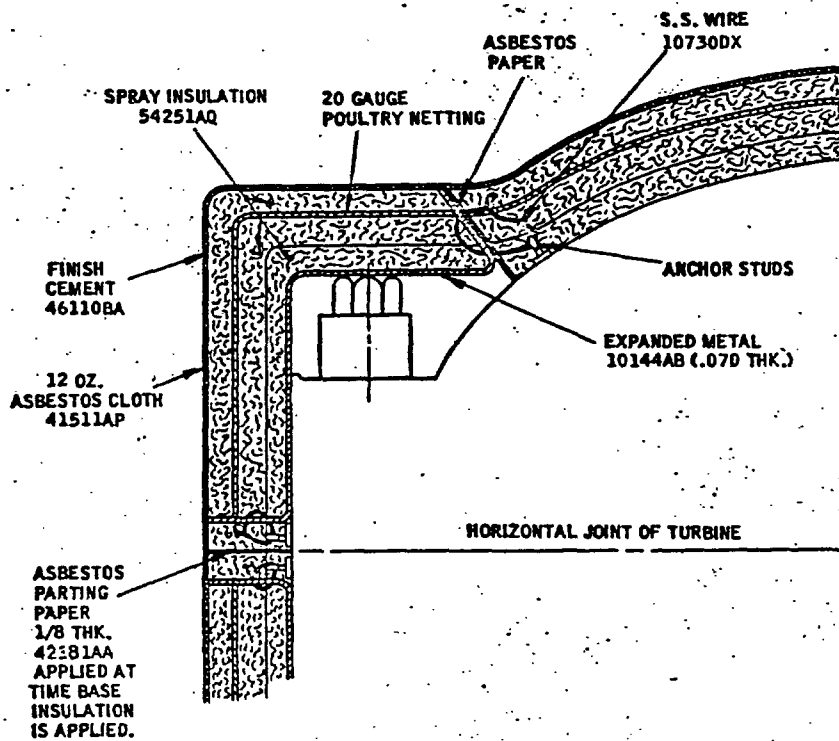

FIGURE 1
2. EXPANDED METAL HOLDERS, EACH ABOUT TWO FEET LONG, SHALL BE FORMED AS SHOWN IN FIG. 1, OF MATERIAL 10144AB, .070 THICK, AND WIRED IN PLACE TO SUPPORT THE INSULATION OVER FLANGE AREAS AND BOLTS AND TO ALLOW FOR EASY REMOVAL. ASBESTOS PAPER MATERIAL 42331AA SHALL BE APPLIED AT THE CYLINDER JOINTS, ABOVE THE EXPANDED METAL HOLDER ADJACENT TO THE CYLINDER CURVATURE, AND BETWEEN THE TWO FOOT SECTIONS ALONG THE FLANGE TO CREATE A SEAM OR PARTING. SPRAY INSULATION SHALL THEN BE APPLIED TO PROPER THICKNESS, ANCHORED WITH POULTRY NETTING, SPRAYED AND PRESSED, FINISH COATED WITH CEMENT 46110BA AND COVERED WITH ASBESTOS CLOTH 41511AP PASTED ON WITH ADHESIVE 53351DU AS DESCRIBED IN PART I.